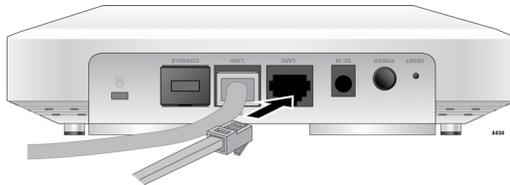

Figure 13. Connecting the Ethernet Cables to LAN2 Port
- b. Connect the second Ethernet cable into the RJ-45 LAN2 port. Refer to Figure 13